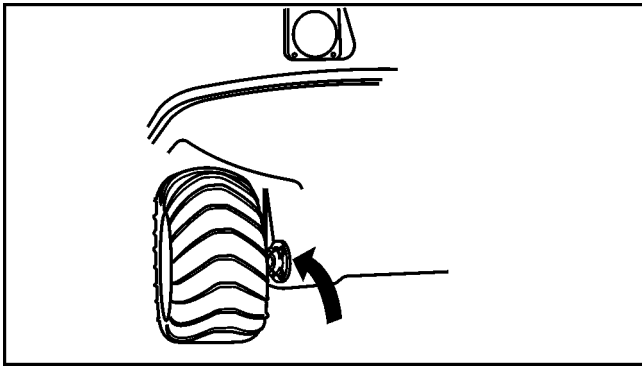

Figure 5-3. Outer bearing flange sealing area.
- Periodically inspect the outer bearing flange and gaskets of each axle (Figure 5-3) to ensure they are water tight. If there are signs of water leaking into the lower body, take corrective action before entering water again. Make sure there is sufficient grease in the bearing flange and that the grease seal is in good condition.